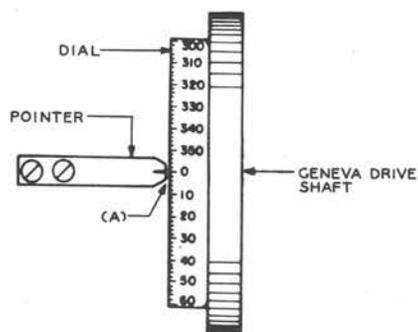

Fig. 16—Clearance Between Pointer and Dial
- (a) There shall be a clearance between end of the pointer and dial [Fig. 16, (A)]. The clearance shall not exceed